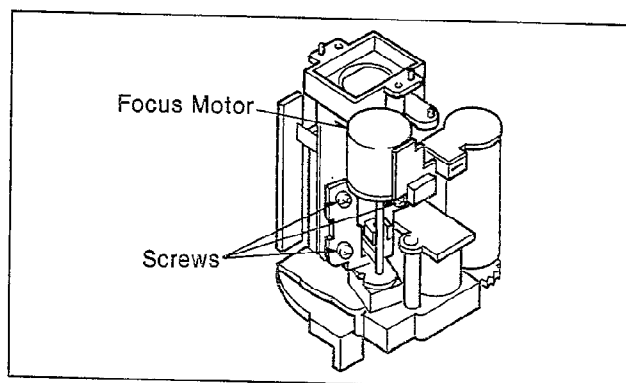

Fig. C4
- (1).Loosen 3-Screws and remove the Focus Motor as shown in Fig.C4.